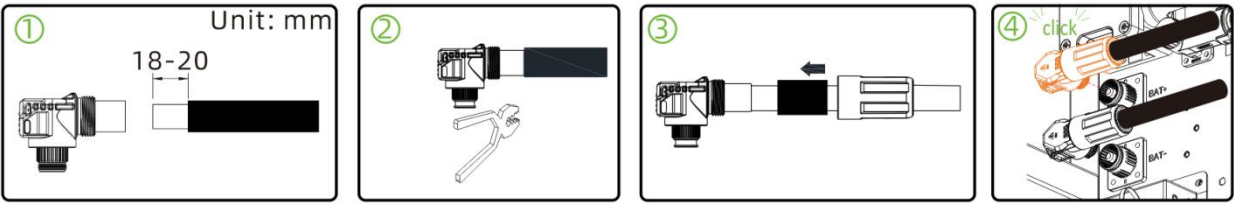

Fig 6.11 Battery terminals connection steps
- 3. Connect the battery cables to the battery terminals on the inverter, as shown in Fig 6.11.